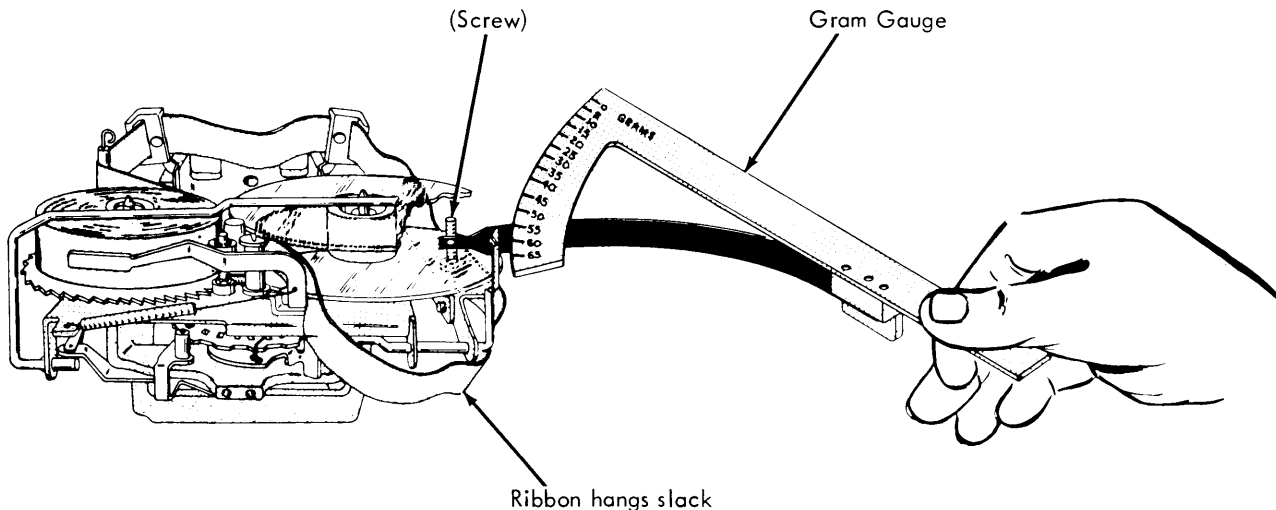

FIGURE 207. Take-Up Tension Check
- d. Place the gram gauge (using a times one spring blade) as shown in Figure 207 and operate the repeat underscore. For the most accurate reading try to keep the end of the spring blade in line with the center of the spool. Also, keep the small hole in the end of the blade against the machine screw as shown by the insert in Figure 207. If the measurement obtained falls within a range of 45 to 55 grams the take-up tension is correct.